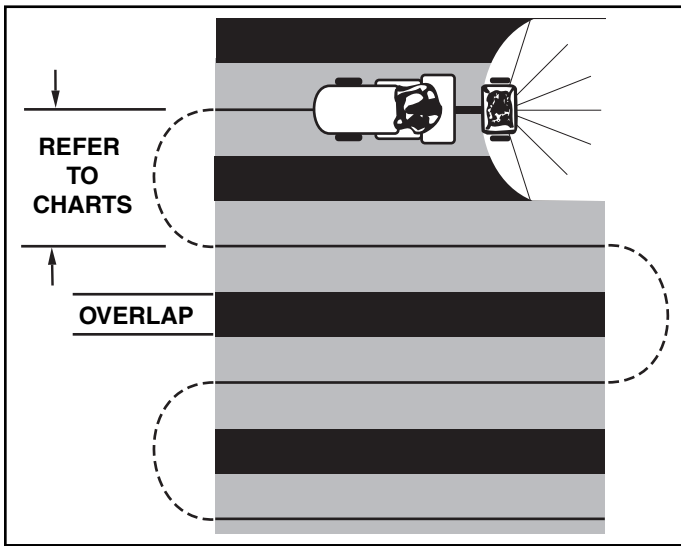

FIGURE 8
9. To insure uniform coverage, make each pass so that the broadcast pattern slightly overlaps the pattern from the previous pass as shown in figure 8. The approximate broadcast widths for different materials are shown in the application chart on this page.